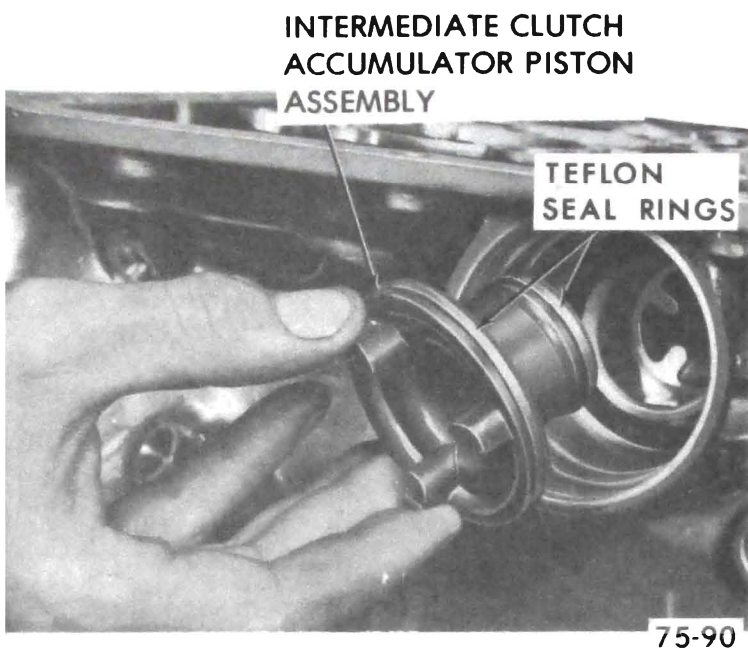

Figure 75-127
**TWO RINGS UNLESS THEY ARE DAMAGED.** If replacement of one or the other of the two rings is necessary, use the Service replacement rings which are hook-type rings. See Figure 75-127.
1. Install inner and outer hook type oil seal rings, if required. Install intermediate clutch accumulator piston assembly. See Figure 75-127.